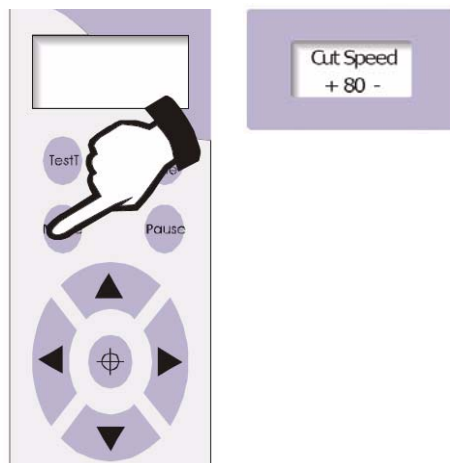

Figure 36
- 5 Press the **On Line** button to put the machine back online so it is ready to cut. See figure 36.